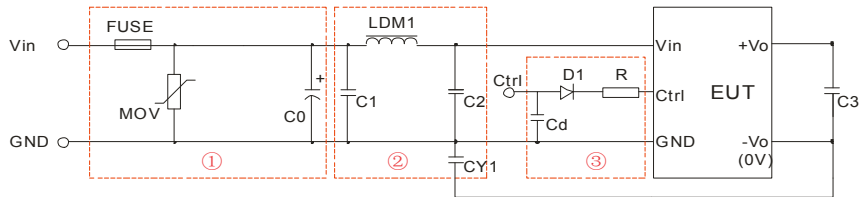

Fig. 3
- ① Part ① in Fig. 3 is used for EMS test while part ② is used for EMI filtering; and parts ① and ② may be selected based on needs.
- ② Vc is the voltage of the Ctrl end relative to the GND of the input grounding; VD is the positive-going conduction pressure drop of D1; Ic is the current flows into the Ctrl end and its value is generally 5-10mA, see Fig. 3-③ for the peripheral circuit of Ctrl end;
- ③ If there is no recommended parameters, no external component is required.